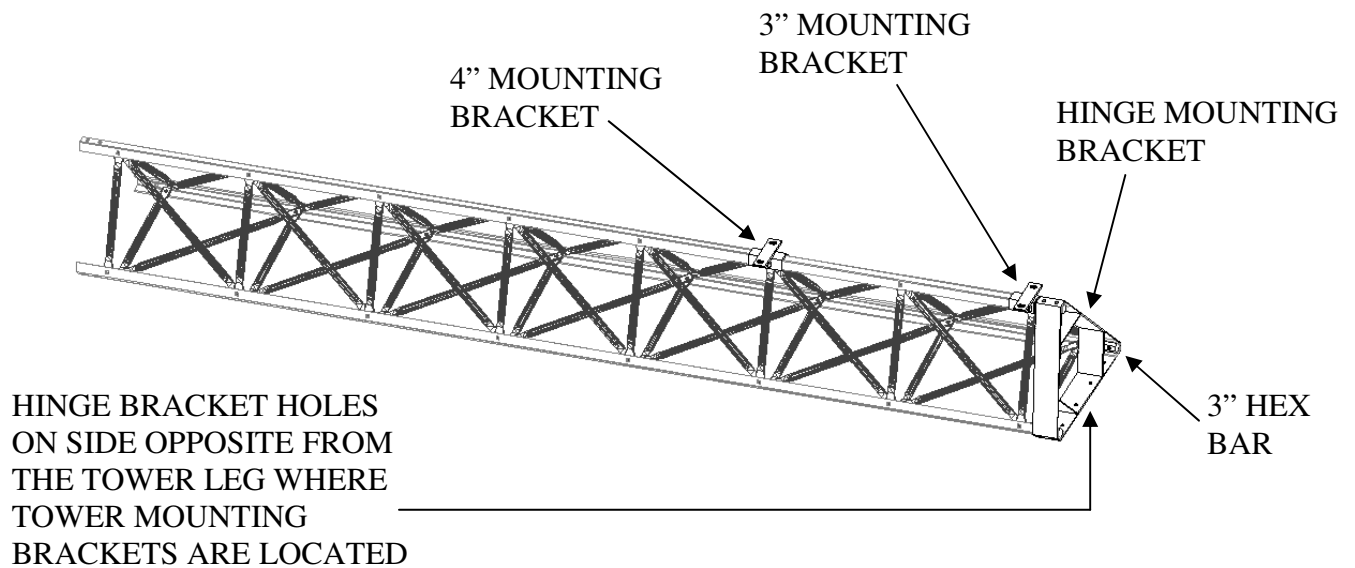

Figure 4 – Middle Tower Section with Brackets Mounted
5. On the middle tower section (item 4), attach the 3" lever mounting bracket (item 7) on rung 1, and the 4" lever mounting bracket (item 8) at rung 3. Use 5/16" x 1 1/2" hex bolts and hardware (items 20, 21, 22) with the head of the bolt outside the tower leg. See Figure 4.
6. Attach a hinge bracket (item 10) to the bottom of the middle tower section (item 4) using the 3" hex spacer bars (item 6) and the 7/16" x 2" hex bolts and hardware (items 26, 29, 30). Ensure that the bolts for the hinge assembly are facing the bottom of the tower section and that the holes are on the opposite side of the tower leg that has the 3" and 4" mounting brackets (items 7, 8). See Figure 4.